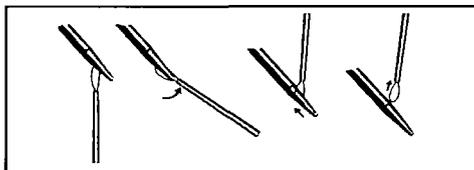

Figure 3: Association Loop Removal
7. Remove the association loop from the needle (see Figure 3).